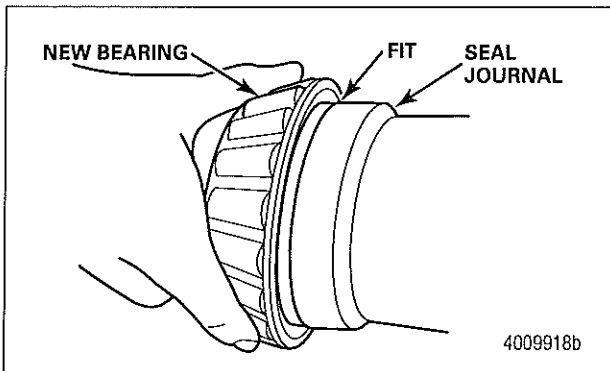

Figure 18
8. Install a new inner bearing cone on the spindle and push it tight against the seal journal. While holding the bearing cone tight against the seal journal, ensure the bearing cone touches the seal journal all 360 degrees around. Figure 18.